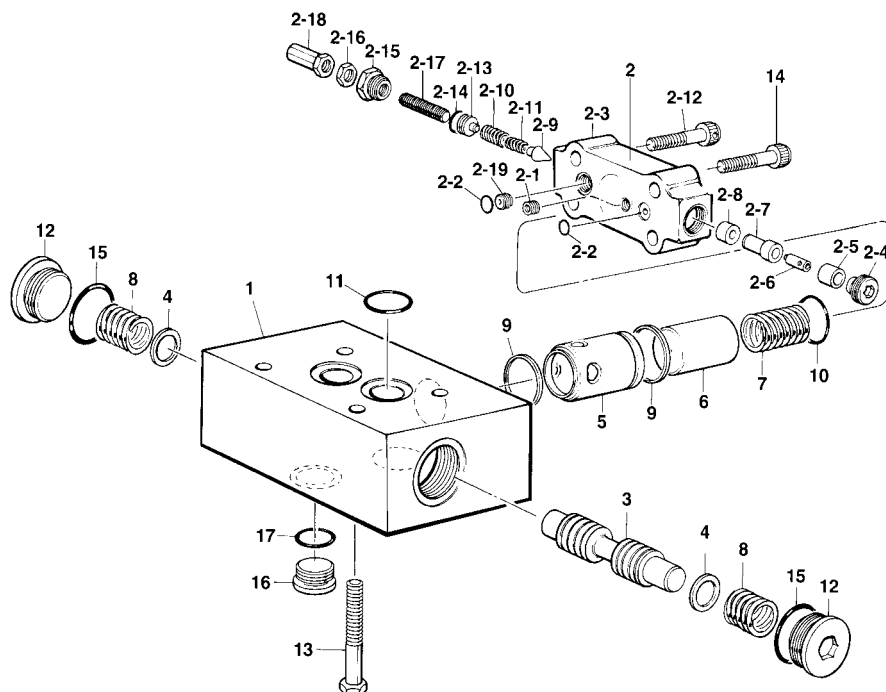

FIGURE 11 EXPLODED VIEW OF SHUTTLE VALVE
See figure 11. Insert seat (2-8) into cap (2-3) and seat in bottom of bore.
See figure 11. Lube spool (3) and insert it into valve body (1). When the spool is fully engaged, move the spool back and forth a few times to check for smooth operation. Spool must move freely in body bore.
PARTS LIST FOR FIGURE 11, S23-11966
PARTS LIST FOR FIGURE 11, S23-11966 ITEM 2
See figure 11. Lubricate tetraseals (11) and place in c'bores of shuttle valve's mounting surface.